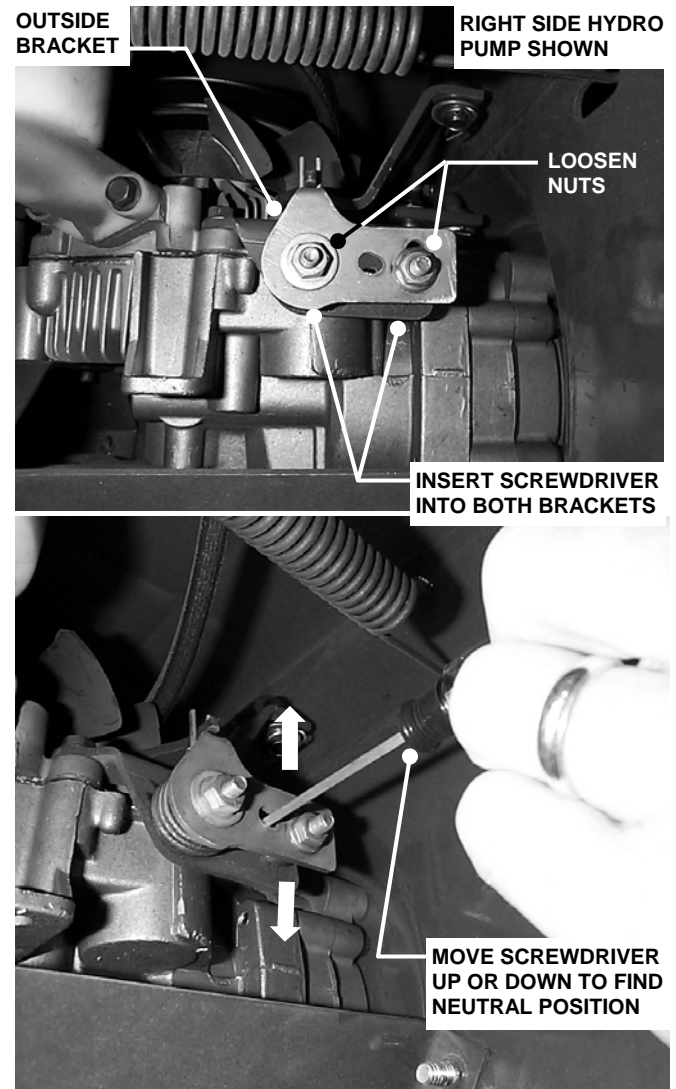

FIGURE 4.1
6. **NOTE:** Neutral positioning brackets are located in the rear of the right side hydro pump (Shown in Illustration) and in the front of the left hydro pump. Locate the neutral positioning brackets on the hydro pumps. See Figure 4.1. **IMPORTANT:** It is necessary to disconnect the rear chain deck hangers and lower the rear of the deck to gain access to adjust left hydro pump.
7. Loosen the nuts that secure the brackets. Insert a small screwdriver all the way into both of the brackets. See Figure 4.1 Move screwdriver up or down to establish the neutral position and until the wheel stops moving. The outside bracket will be the only one that moves. Retighten nuts securely. Repeat procedure for other hydro pump. After adjustment, turn key to the "OFF" position. Reconnect the rear deck hanger chains to main case to secure deck. Return machine back to its wheels.